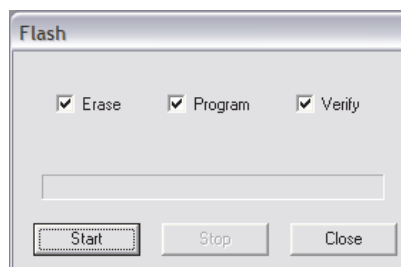

Figure 13. Flash Window
8. Program the Flash by selecting Device → Flash. A separate menu will open as shown in Figure 13. All options or only certain options can be selected for the flashing process.